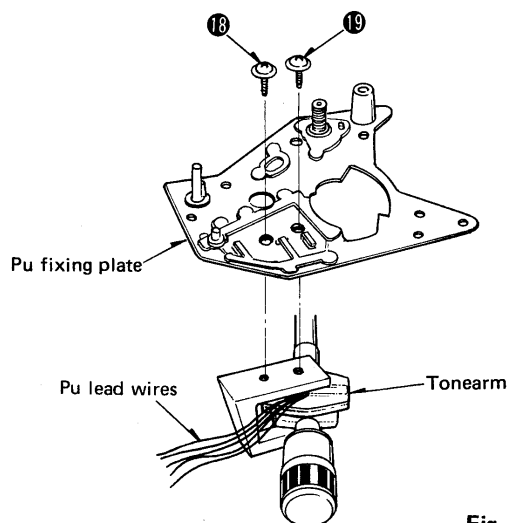

Fig. 9
## • How to remove the tonearm (Fig. 9)
3. Remove the 2 setscrews [ Fig. 9: ⑱ ~ ⑲ ] of the lift P.C.B.